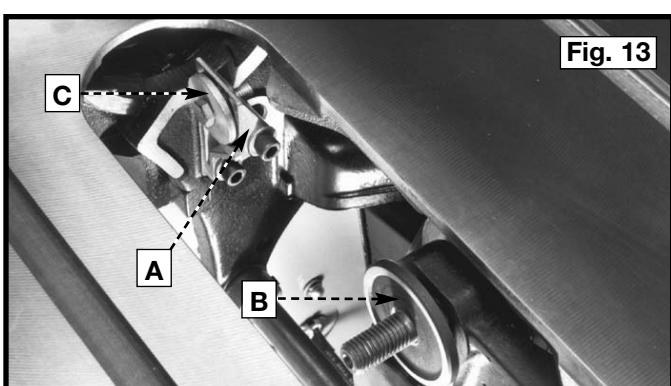
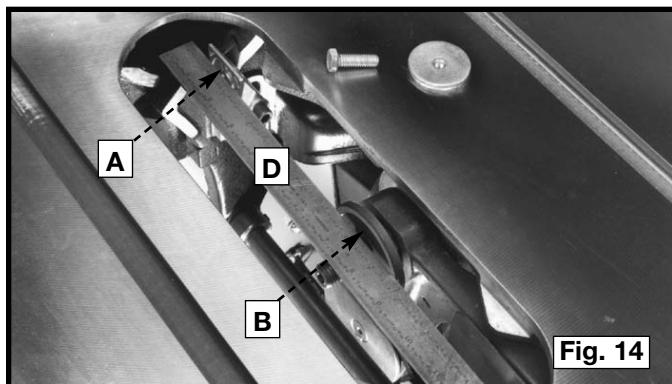

Fig. 13
Fig. 14
2. The inside splitter mounting bracket (A) Fig. 13 comes attached to the inside of the saw and was aligned with the inside blade flange (B) at the factory.
3. To check the alignment, remove the screw and fastener plate (C) Fig. 13. Use a straight edge (D) Fig. 14 to see if the splitter bracket (A) is aligned with the inside blade flange (B). Check both the top and bottom of bracket (A) with the top and bottom of flange (B).